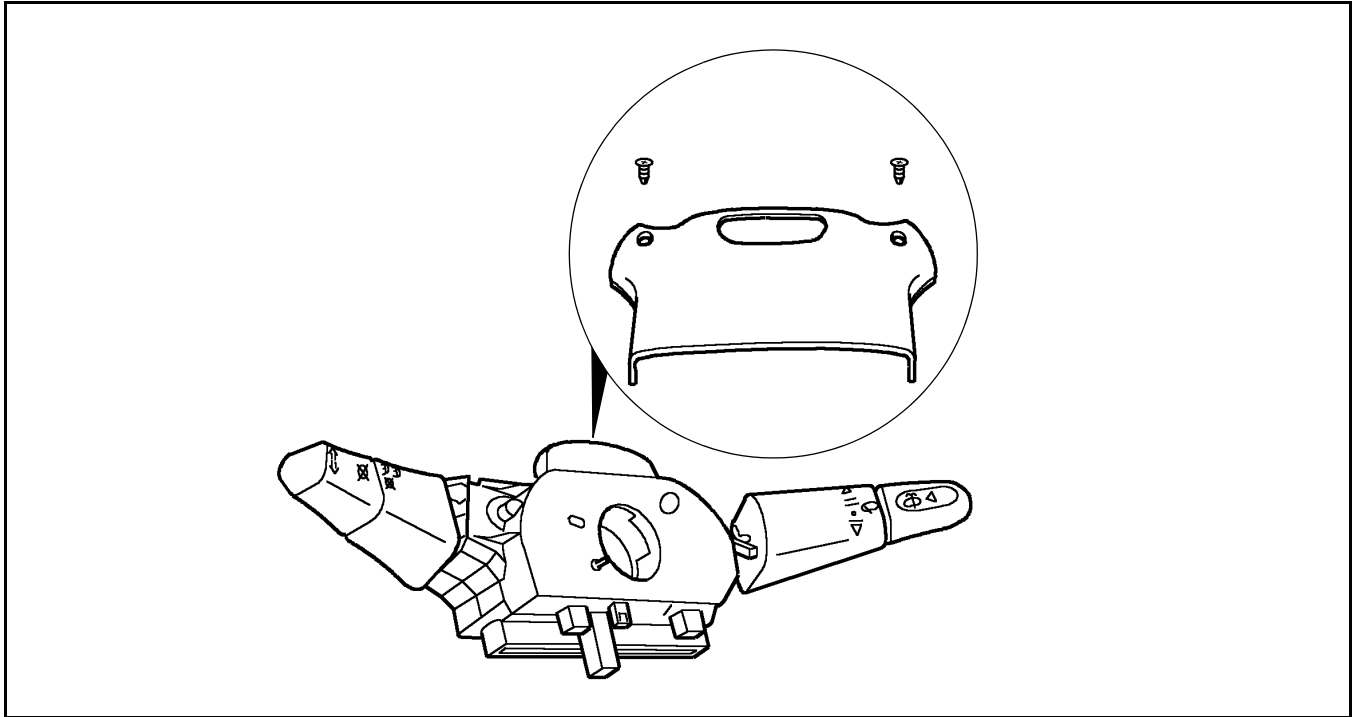

Figure 233 Removal of Phillips Screws and Upper Cover
4. Unscrew both Phillips screws and remove upper cover (Figure 233).